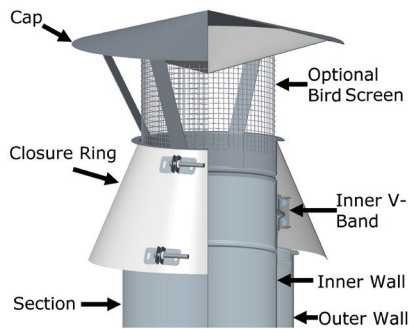

Figure 68 - Rain Cap (RC) installed
The Rain Cap combine partial protection against rain entry with low exit flow (resistance is roughly 0.5 velocity heads). It is mounted to the end of a standard pipe section by use of the standard Inner V-Band (BSI). See Step 1 to 4 in the JOINT ASSEMBLY Section. It is a single wall assembly (for all Models DCL, DAS1, DIS1, DIS2 and DIS4), but a Closure Ring (CR) is provided as part of the Rain Caps so that the insulating space is protected through the upper end of the chimney. The CR must be sealed to the inner wall with outer Sealant S-375. See Figure 68.